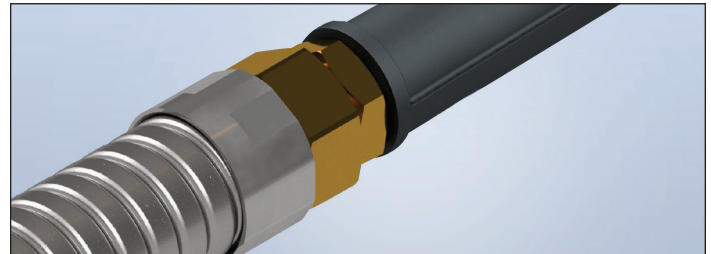

Figure: 1-12
8. Thread floppy conduit into the Floppy Conduit Adapter until it stops. This will secure the floppy conduit to the fitting (Figure 1-12). **NO additional fastening or adhesives required!**